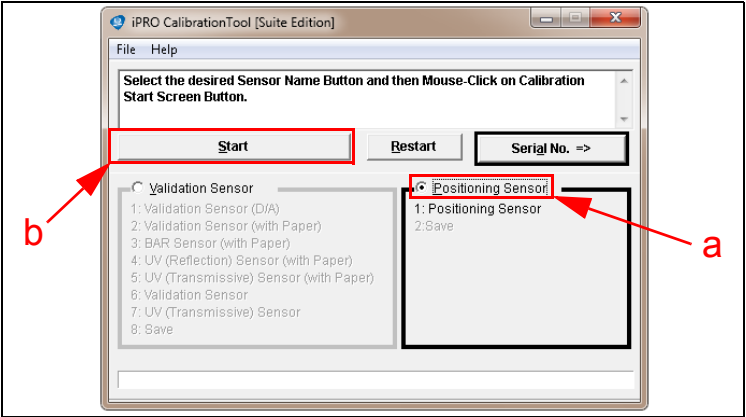

Figure 8 Positioning Sensor Selection
**NOTE:** The iPRO Calibration Tool Application will display the iPRO Calibration Tool [Suite Edition] Screen shown in Figure 8.
5. Click the “Positioning Sensor” Radio Button  (Figure 8 a).
6. Click the “Start”  Screen Button (Figure 8 b).